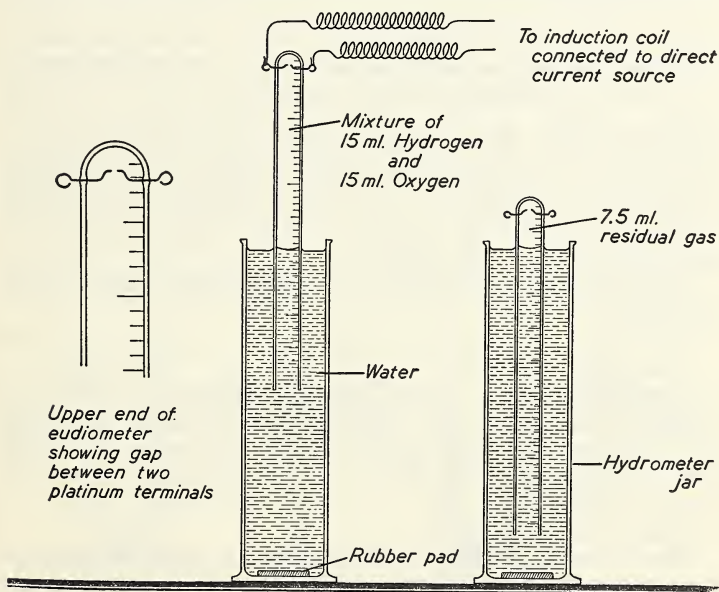

Fig. 43. Synthesis of water by volume in a eudiometer.
1. A eudiometer tube is used (Fig. 43). Because of the expense of the large volume of mercury required to fill the jar and tube, and the greater danger of breakage, it is suggested that water be used in place of mercury. Examine a eudiometer tube so that you will be able to describe it in detail. Fill the tube with water and invert it in a tall hydrometer jar also filled with water. Pass a small volume (e.g., 15 ml.) of hydrogen (from a hydrogen cylinder or generator) into the tube.